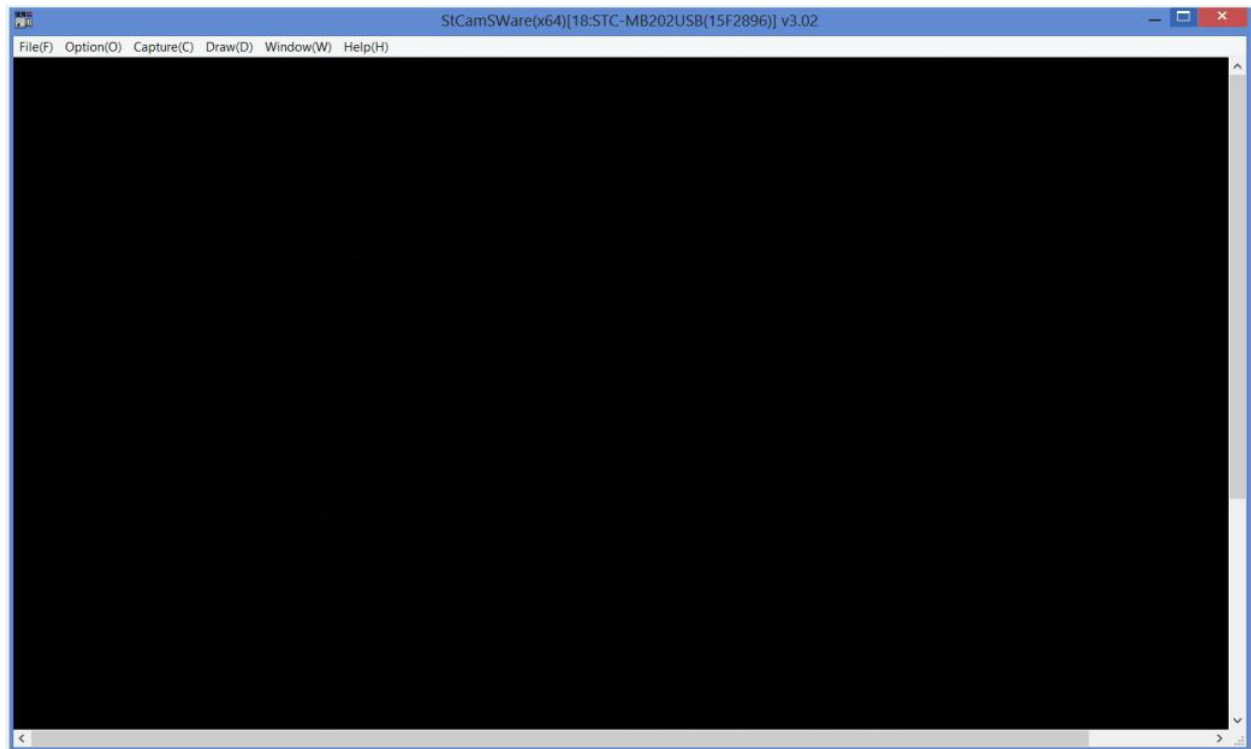

Figure 28 Optical Camera Live View
27. Optical Camera Live View Dialog box would be illustrated as below Figure 28.